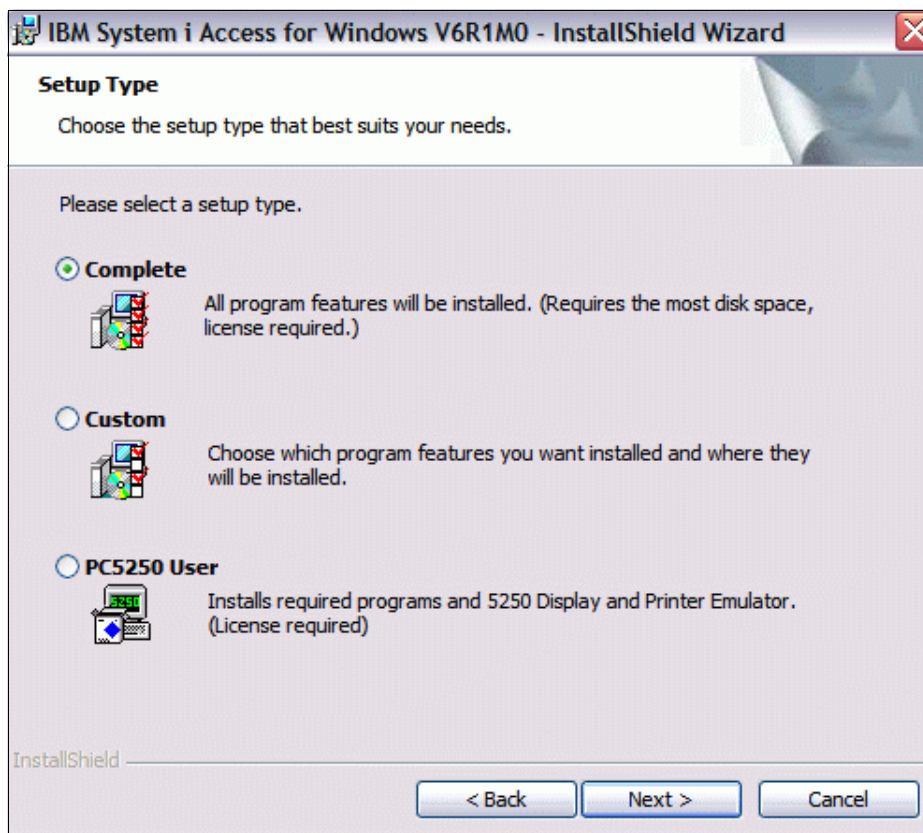

Figure 7-15 IBM System i Access for Windows Setup Type
6. Depending on the complexity of functions, several choices are available as shown in Figure 7-15 on page 266. The normal case is a complete installation. Experienced administrators can select the custom installation to save disk space, or install determined functions only.